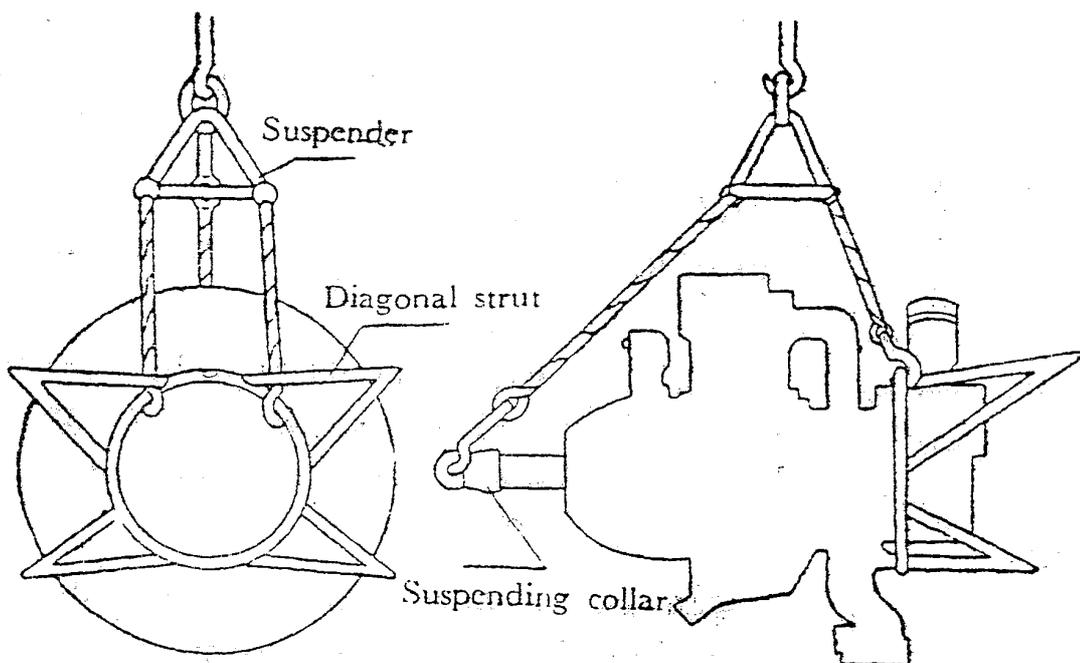

Fig. 16 Suspending position
10. Place the suspender according to Fig. 16, suspend the engine by grab hook, the suspending capacity of which should be not less than 500kg, then take off the
- b. Set up the engine suspender according to Fig. 16, suspend the engine by a grab hook, then disassemble supporting rod for transporting engine, mount diagonal strut.